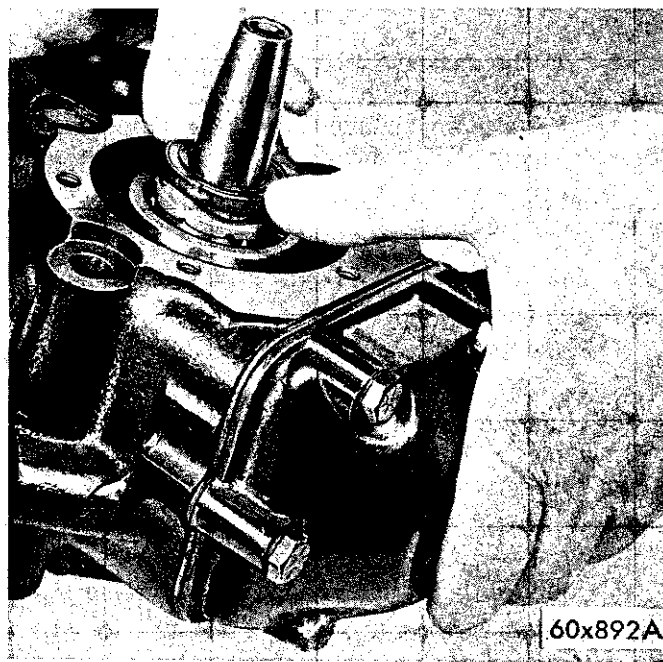

Fig. 43—Inspect the Indexing of Tangs
The crankshaft gas seal replacement package consists of the crankshaft gas seal assembly and the crankshaft bearing housing seal face plate. Two types of crankshaft seals are supplied for service, as shown in Fig. 43. If the replacement package contains the cartridge-type seal, follow the entire installation procedure given below. If the replacement package contains the unitized-type seals, steps 1, 2, and 4 will not apply.
(2) Hold the seal firmly on the outside edge to prevent it from rotating out of the index slots.
(3) Lubricate the crankshaft with refrigerant oil. Slide the seal on the crankshaft with the smooth (carbon seal) surface up, or toward the front of the compressor.
(4) When the seal bottoms against the crankshaft bearing, inspect the indexing of tangs again by pressing down with thumbs to see if it has the proper spring action. (Refer to Fig. 43).
(5) Lubricate and install the crankshaft bearing housing seal face plate with the smooth (micro-finish) side up. Use a sleeve with the minimum inside diameter of 1 3/8 inches to avoid damaging the micro-finish sealing surface of the face plate. Tap sleeve lightly until the seal face is fully seated in the housing.
(6) Install the bearing housing oil seal, using plenty of refrigerant oil.
(7) Install the housing, making sure that it is in proper alignment with the screw holes. The gas seal assembly may be damaged if the bearing housing is rotated after the housing seal contacts the carbon seal.
(8) Install the bolts and tighten 10 to 13 foot-pounds torque.